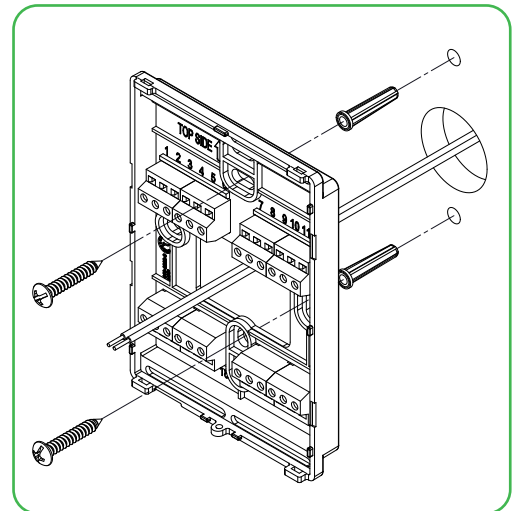

Figure 2 Install the base
5. Align base and mark location of two mounting holes on wall (Figure 2).